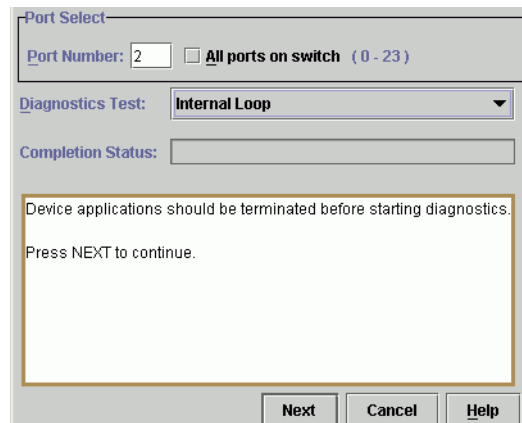

Figure 4-16 Port Diagnostics Dialog Box
4. Select the *Port Diagnostics* option from the *Maintenance* menu. The *Port Diagnostics* dialog box displays (Figure 4-16).
6. Select the *Port Diagnostics* option from the *Maintenance* menu. The *Port Diagnostics* dialog box displays (Figure 4-16).